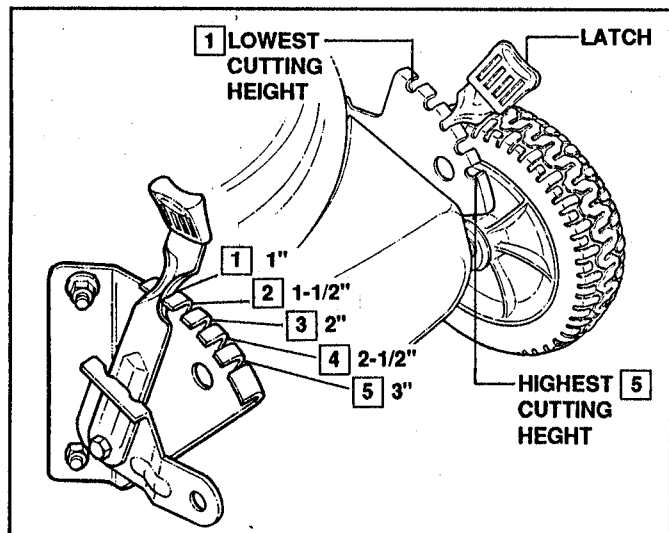

FIGURE 2.4
- A. Pull the height adjusting latch outward towards the wheel and move to desired notch. See Figure 2.4.